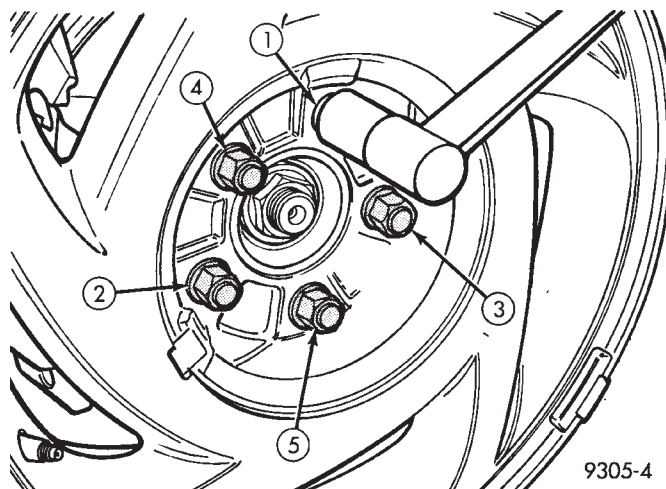

Fig. 17 Tightening Wheel Nuts
(11) Adjust brake shoes assemblies so as not to interfere with brake drum installation.
(12) Install the rear brake drums on the hubs. **After brake drums are installed pump brake pedal several times to partially adjust the brake shoe assemblies. When park brake pedal is released assure that both rear brakes are not dragging. This will verify proper operation of the self-adjust parking brake.**
(13) Install the wheel and tire assembly.
(14) Tighten the wheel mounting stud nuts in proper sequence (Fig. 17) until all nuts are torqued to half specification. Then repeat the tightening sequence to the full specified torque of 129 N•m (95 ft. lbs.).